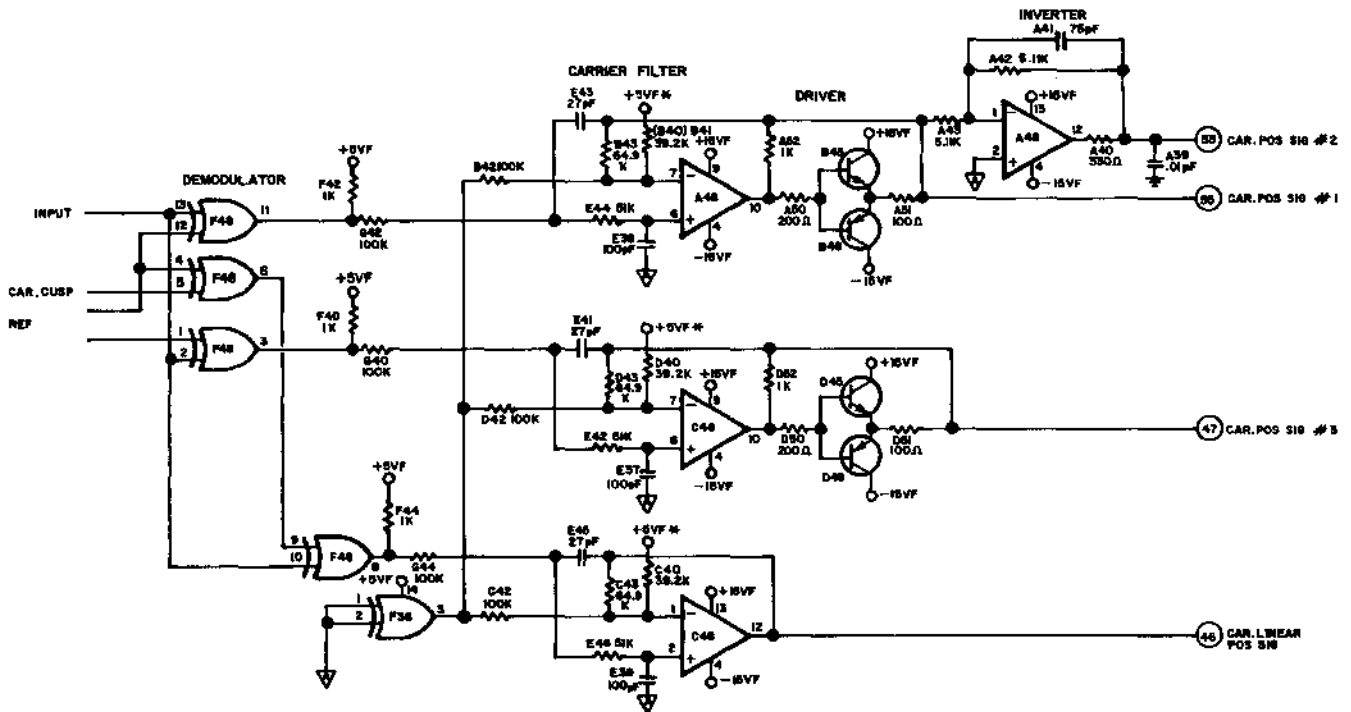
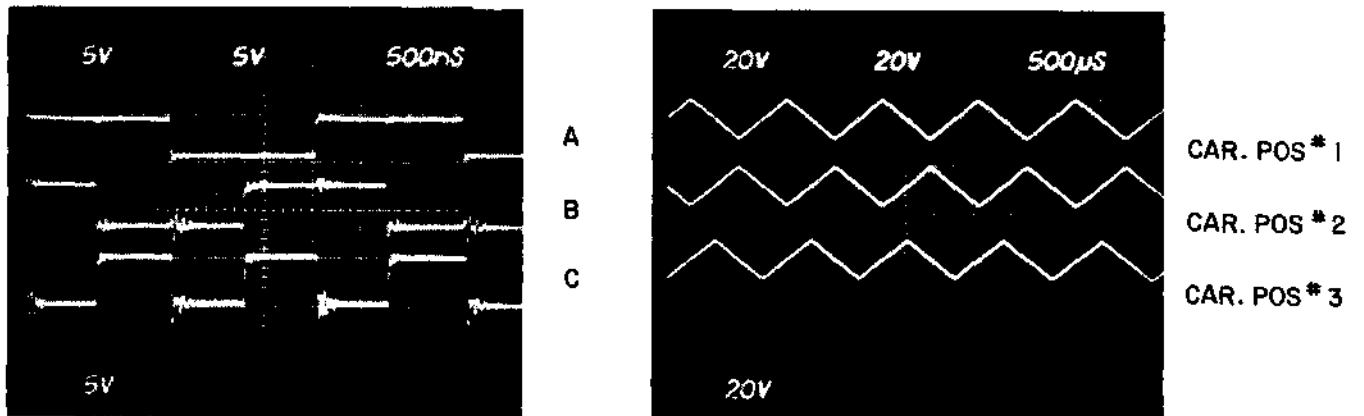

Figure 4-23 SERVO FEEDBACK DEMODULATOR/INTEGRATOR/AMPLIFIER
Figure 4-24 SERVO FEEDBACK DEMODULATOR/INTEGRATOR/AMPLIFIER WAVEFORMS
Figure 4-23 is a partial schematic showing the Servo Feedback Demodulator/Integrator/Amplifier circuit. Figure 4-24 shows waveforms taken in this circuit.
As shown in Figure 4-24, by observing the two inputs to either F48-3 or F48-11 along with the gates' output on a multichannel oscilloscope which is synchronized to the sine-wave drive generator and slowly moving the carriage by hand, the square-wave input from comparator F10 (B) will appear to move with respect to the input on either pin 1 (F48-3) or pin 12 (F48-11) from the sine-wave generator (A). Then, the output (C) from either F48-3 or F48-11 will be a square wave whose relative HI-LO status will vary as the HI-LO states of the two inputs vary with respect to each other.